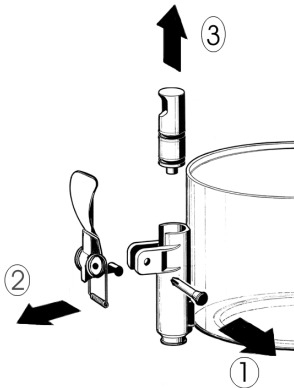

figure 1
- 3 Dismantle the faucet following the sequence shown (see fig. 1)
- 3** Reassemble the faucet assembly on the container in the opposite way to which it was dismantled (see fig. 1).